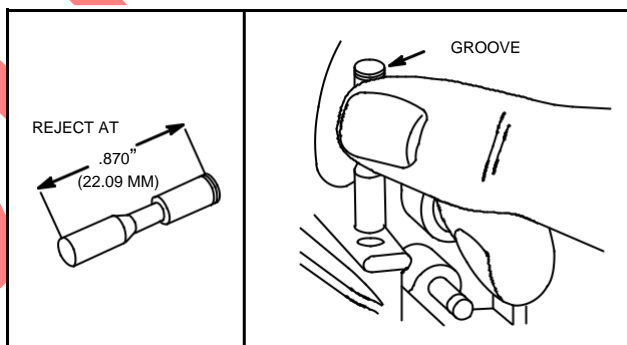

Fig. 99 – CHECKING BREAKER POINT PLUNGER HOLE
Replace breaker point plunger if worn to .870" (22.10 mm) or less. Insert plunger with groove towards breaker points or oil will enter breaker point box, Fig. 99.
Install breaker point plunger, Fig. 99.
4. Install breaker point plunger in plunger hole, Fig. 99.
Replace breaker point plunger if worn to .870" (22.09 mm) or less. Insert plunger with groove towards breaker points or oil will enter breaker point box, Fig. 99.